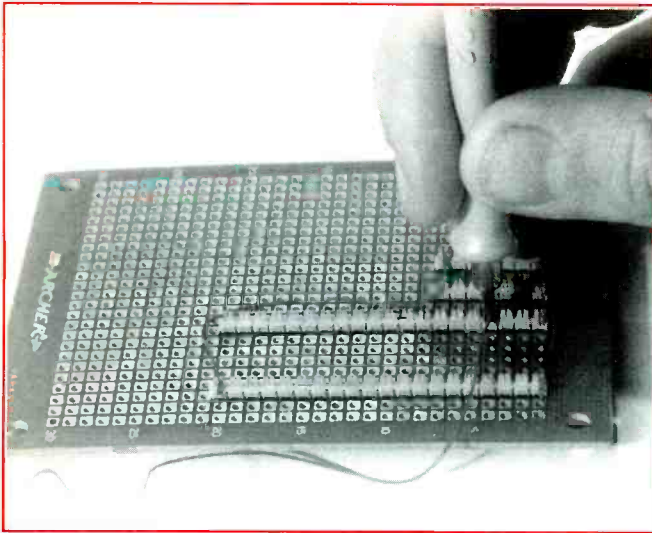

Fig. 11. Wiring a connection to a Scotchflex plug strip.
(1) Break off two seven-pin plug strips from a longer plug strip and press the pins of the two strips into the perf-board from the bottom. Space the rows 0.3" apart so that they match the socket's spacing.
(2) On the top of the board, press a 14-pin legless socket onto the pins to complete the socket. Flip over the board and push down on the plug strips with the wide end of the insertion tool to seat the strips into the dual socket.
(3) To wire a connection, place a length of No. 30 wire across the slot of the desired U-shaped contact. Using the double-slotted end of the insertion tool, place the shallower slot over the wire. With it held vertical to the board, push down on the tool (Fig. 11). This pushes the wire into the U-shaped contact, stripping the wire's insulation and making an electrical and mechanical connection between wire and contact.
(4) You can now route the wire to its next contact and repeat this procedure. If several pins connect together, you can "daisychain" a single wire from contact to contact, instead of having to cut a separate wire for each connection.
(5) When you're done routing a wire, cut the ends, leaving tails of about 1/16". Each contact can hold two wires and is guaranteed to last for at least 25 uses.